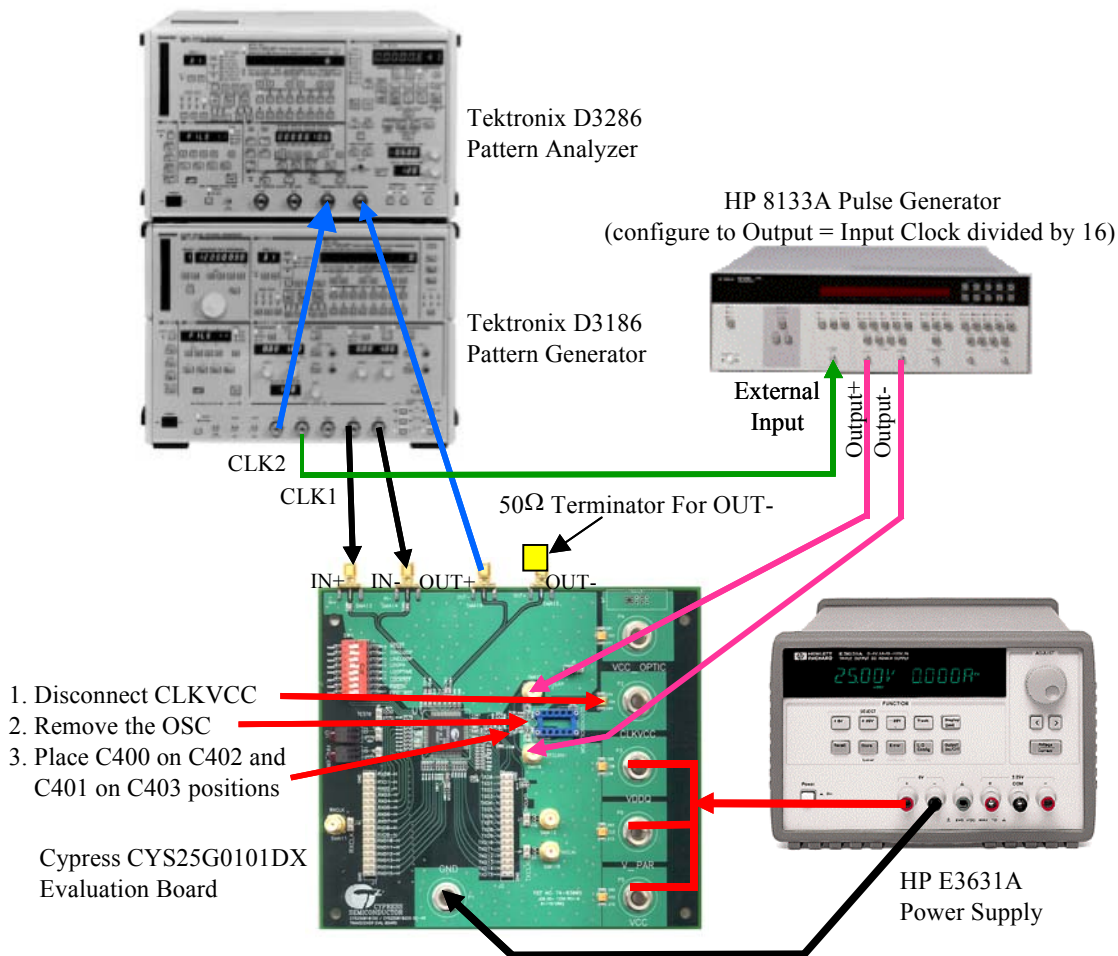

Figure 11. Equipment Set-up For Testing the TX PLL in Parallel Line Loopback Mode
4. Apply the Testing Hookup illustrated in *Figure 11* for the measurement
Figure 11 illustrates the set-up for testing the TX PLL in Parallel Line Loopback Mode. The equipment list: